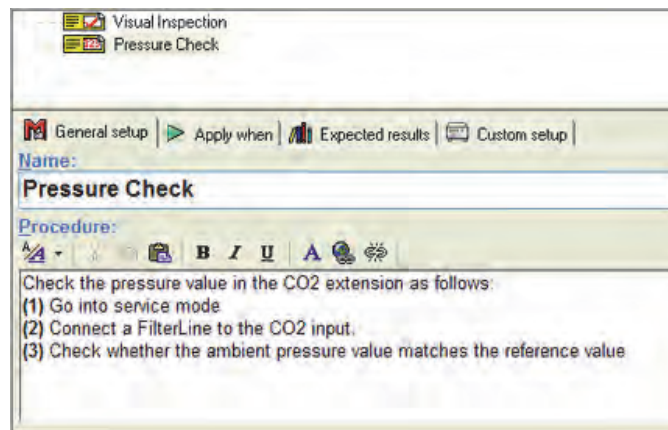

Figure 3-37. Configuring a Numerical List
7. Click in the **Procedure** textbox and write a procedure that describes how the test is to be carried out to the field user. See Figure 3-37.